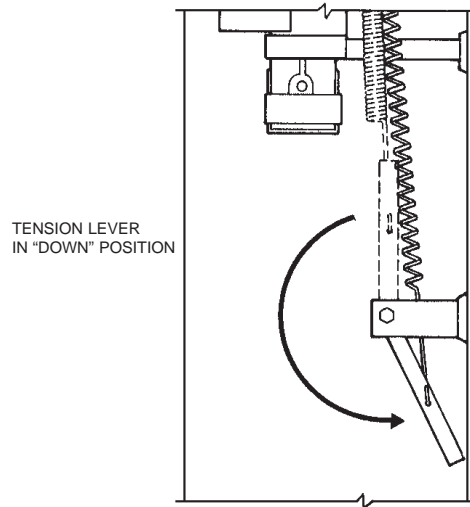

FIGURE 7
19. Lower tension lever to "DOWN" position. See Figure 7.